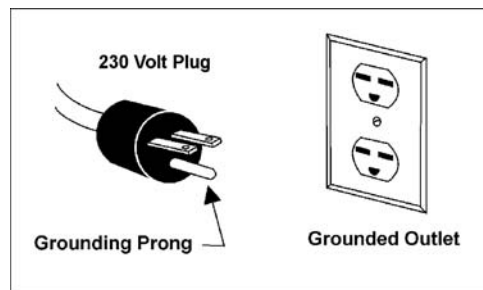

Figure 6
- The 115V attachment plug (shown in Figure 6) supplied with the sander, must be replaced with a UL/CSA listed plug suitable for 230V operation (shown in Figure 7). Contact your local authorized JET service center or qualified electrician for proper procedures to install the plug. The sander must comply with all local and national codes after the 230 volt plug is installed.